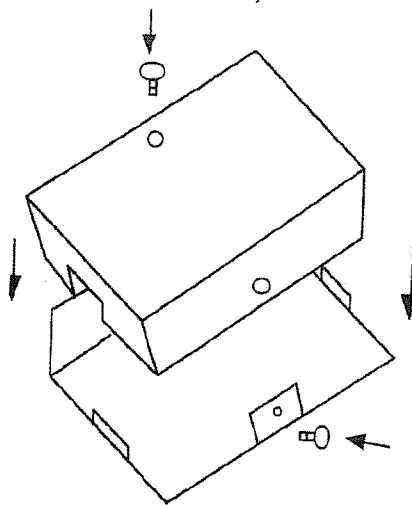

Figure 4
- (1) Remove the two screws on the enclosure case and remove the top cover (Figure 4)